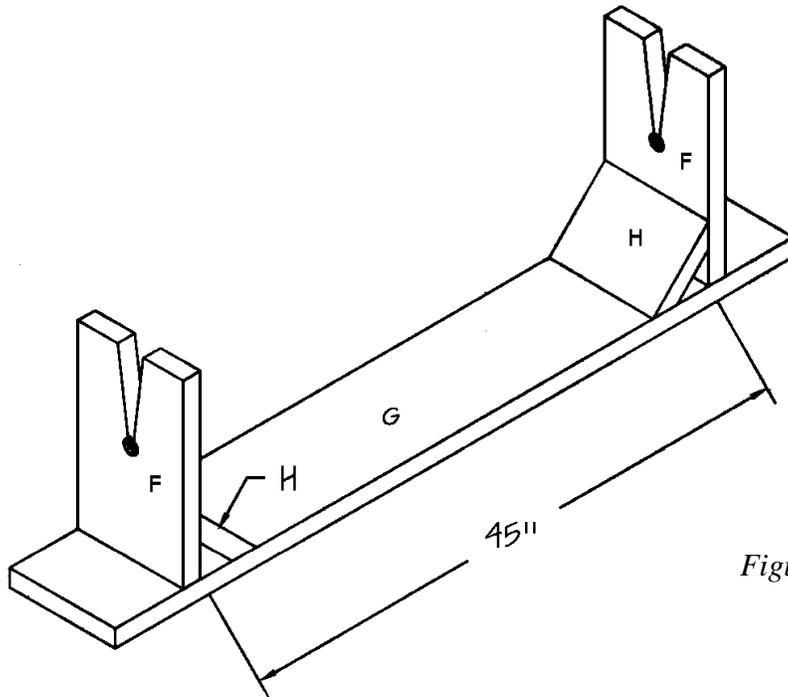

Figure 12
9. Turn the bench assembly upside down. Fit the mitered Bench Braces (H) between the Bench Legs (F) and Bench Top (G), as shown in *Figure 12*. Apply glue to the meeting surfaces, and screw at an angle through the Bench Braces (H) into both the Bench Top (G) and Bench Legs (F), using three 2-1/2" wood screws on each joint.